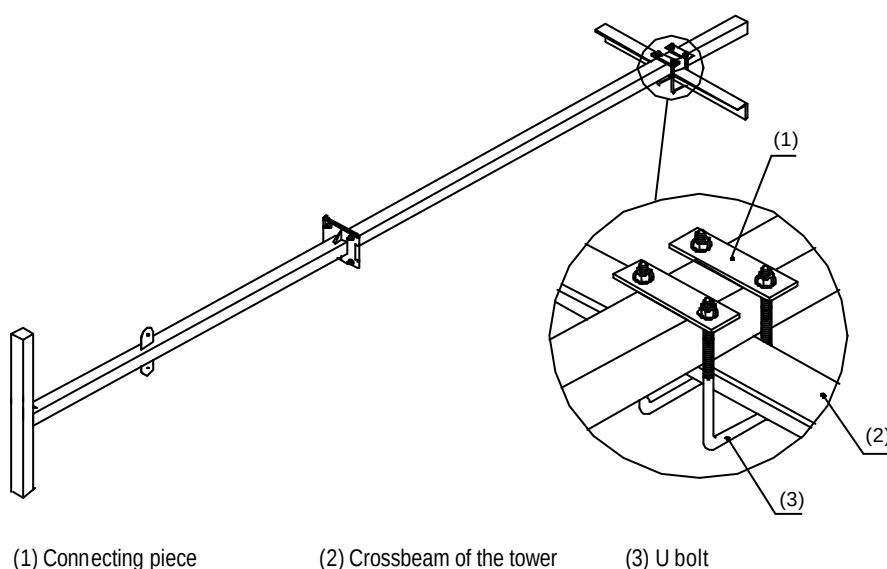

Figure 6-18 Installation of the antenna stand on the tower platform
- 3) Hang over the stand out of the tower platform, and fix it onto the tower using a U fixing clip (including the connecting piece and the U bolt), as shown in Figure 6-18;